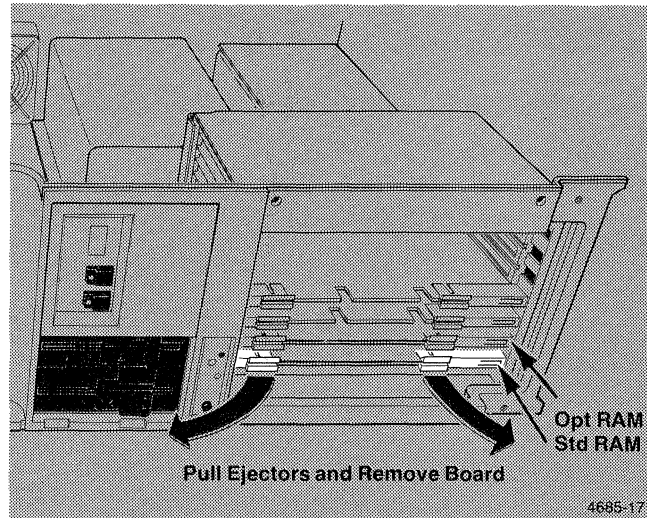

Figure 14-3. Removing Card Cage Circuit Boards.
- o Grasp the upper and lower ejectors as shown in Figure 14-3. Pull the ejectors out toward you.